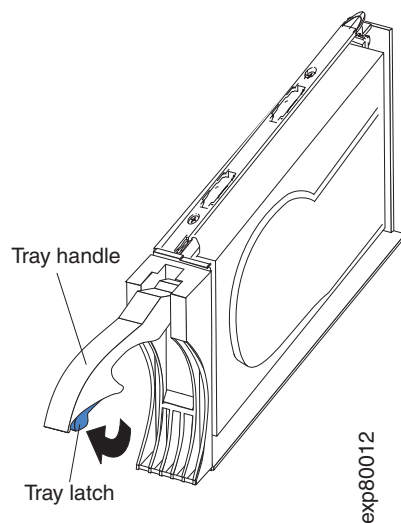

Figure 111. E-DDM CRU handle
- b. Pull the handle on the tray out so that it is in the open position, as shown in Figure 111.
- a. Release the latch on the E-DDM CRU by pressing on the inside of the bottom of the tray handle, as shown by the arrow in Figure 111 on page 154.